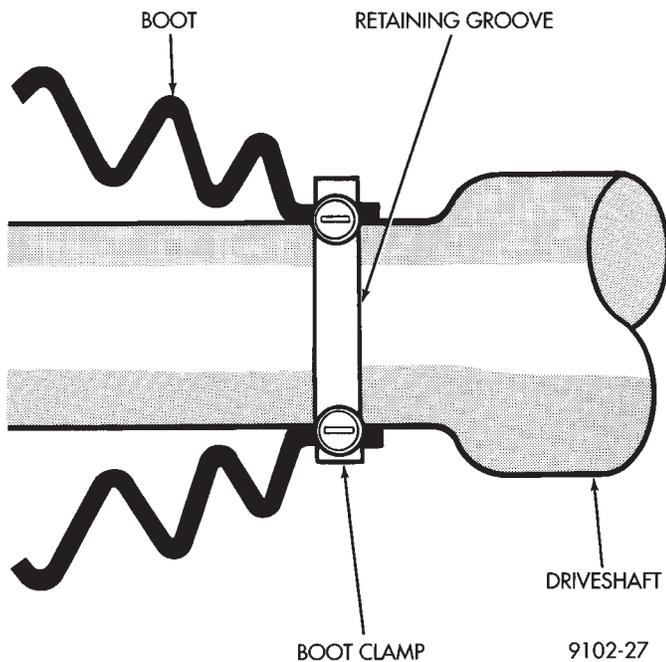

Fig. 1 C/V Joint Boot Positioning G.K.N.
(1) Slide the small end of the boot over the shaft. Position the boot to the edge of the locating mark or groove, whichever is appropriate (Fig. 1).